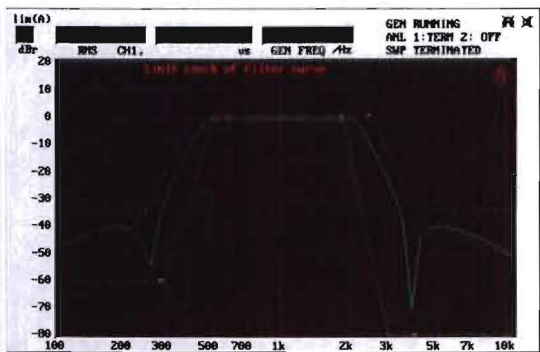

Fig. 8: Tolerance curves enable fast ga/nogo tests
- High measurement speed is vital for achieving a high production throughput. By making appropriate use of the instrument functions, go/nogo decisions can be made already in the audio analyzer, thus reducing the run time of a DUT (Fig. 8).